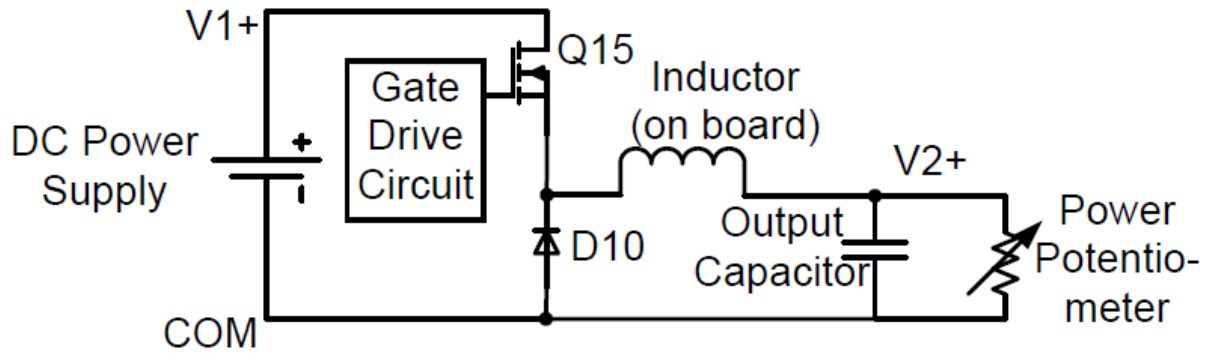

Fig. 1. Buck converter circuit
- 1.5 Build the circuit shown in Fig. 1 by using the upper MOSFET, lower diode, and BB magnetic board. Note down the inductance value shown in the board.
- 1.5.2 Make sure the switch array for MOSFET selection, PWM selection, and other settings are as shown in Fig. 1.